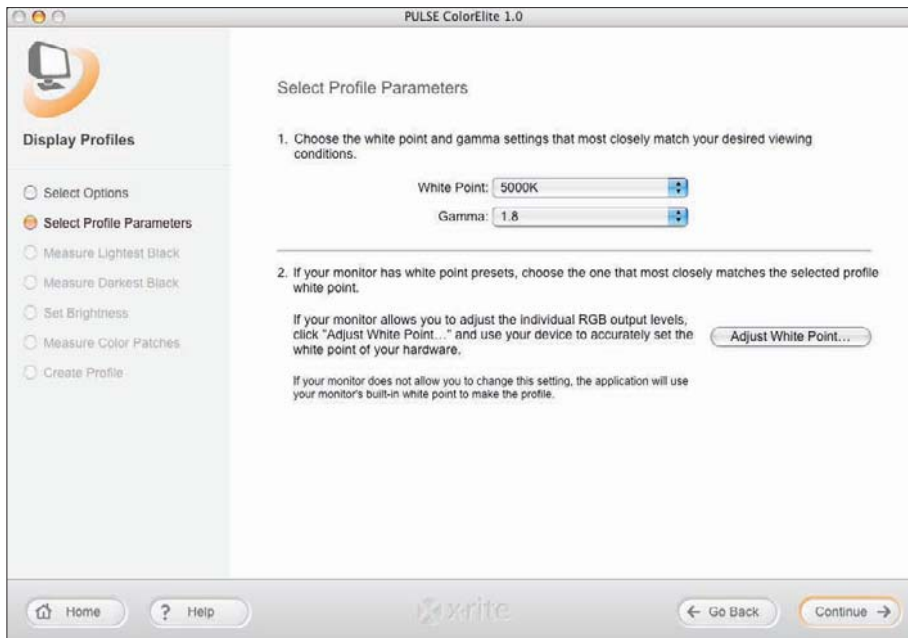

Figure 5.7
- When you start up the display calibration software, the step-by-step instructions are very clear and easy to follow. Figures 5.7 through 5.11 show selected examples of the process.